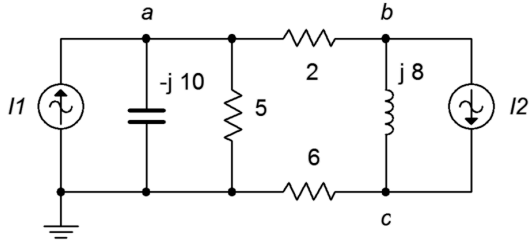

Figure 6.19
37. Given the circuit in Figure 6.19, use nodal analysis to determine v_{ac} . $I_1 = 10\angle 0^\circ$, $I_2 = 6\angle 0^\circ$.
38. Use nodal analysis to find the current through the $j8\ \Omega$ inductor in the circuit of Figure 6.19. $I_1 = 3\angle 0^\circ$, $I_2 = 5\angle 30^\circ$.